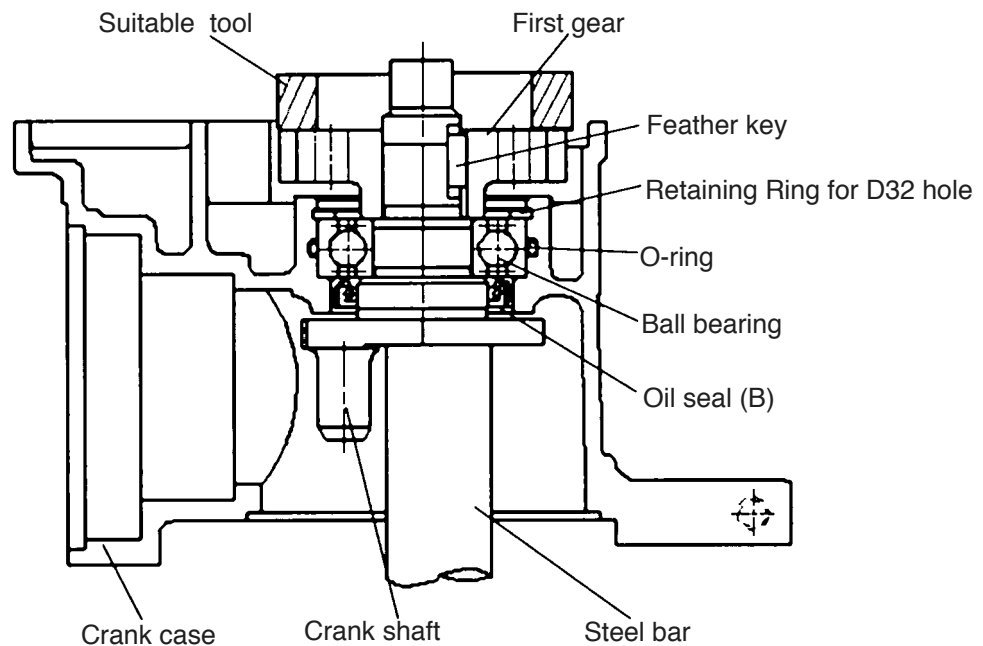

Fig. 20
Press-fit Oil Seal (B) [48] in the Crank Case [46] then the O-ring (S-32) [49] is fitted in the groove inside the Crank Case [46]. Press-fit the Ball Bearing 6002DDCMPS2L [50] in the Crank Case [46] then the Retaining Ring for D32 hole [51] is fitted in the groove inside the Crank Case [46]. Press-fit the Crank Shaft [40] in the Ball Bearing 6002DDCMPS2L [50]. Put the Feather Key 3 x 3 x 8 [39] into the groove of the Crank Shaft [40] and press-fit the First Gear [52] with a suitable tool while holding the flat portion of the Crank Shaft [40] with a steel bar. Before press-fitting, make sure that the Feather Key 3 x 3 x 8 [39] fits in the key groove of the First Gear [52] (Fig. 20).